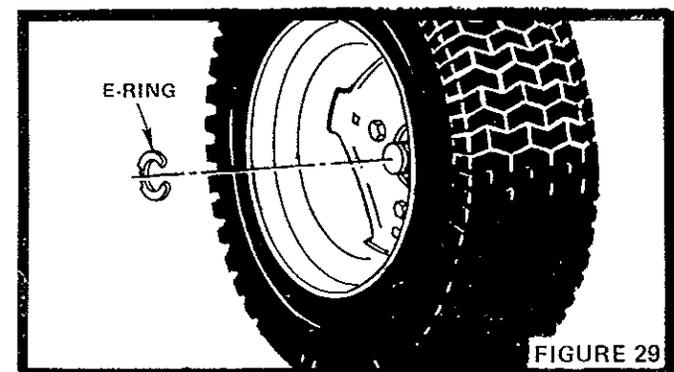

FIGURE 29
- e. Removing rear wheel for tire repair (Fig. 29).